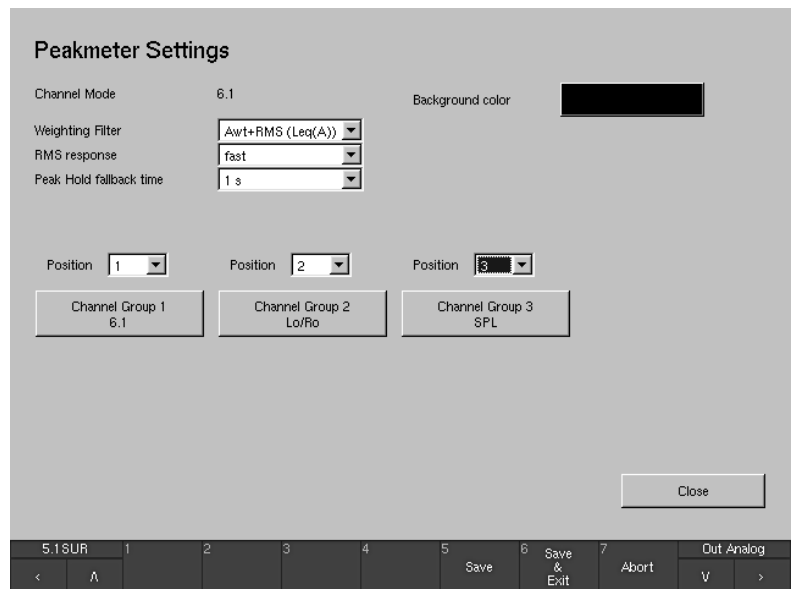

Fig. 6-35: Example: The Peakmeter Settings menu page in 6.1 Surround mode
See Chapter 6.5.2.6 and Figs. 6-35 to 6-37
- The **Peakmeter – Channel Group** menu pages are accessed using the Channel Group buttons of the **Peakmeter Settings** menu page (see Chapter 6.5.2.6 and Figs. 6-35 - 6-37).